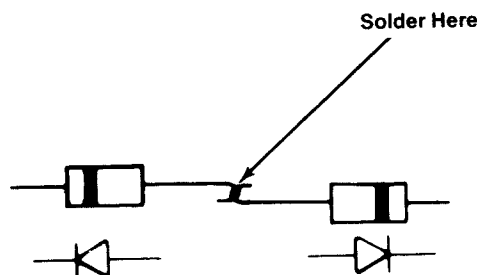

Figure 7 1N754A and 1N756A Zener Diode Connections
Perform the following procedure to modify the Deflection PCB (see Figures 7 and 8).
5. Connect two type-1N754A Zener diodes together, anode to anode, as shown in Figure 7. Use a soldering iron to solder the two anode leads together.